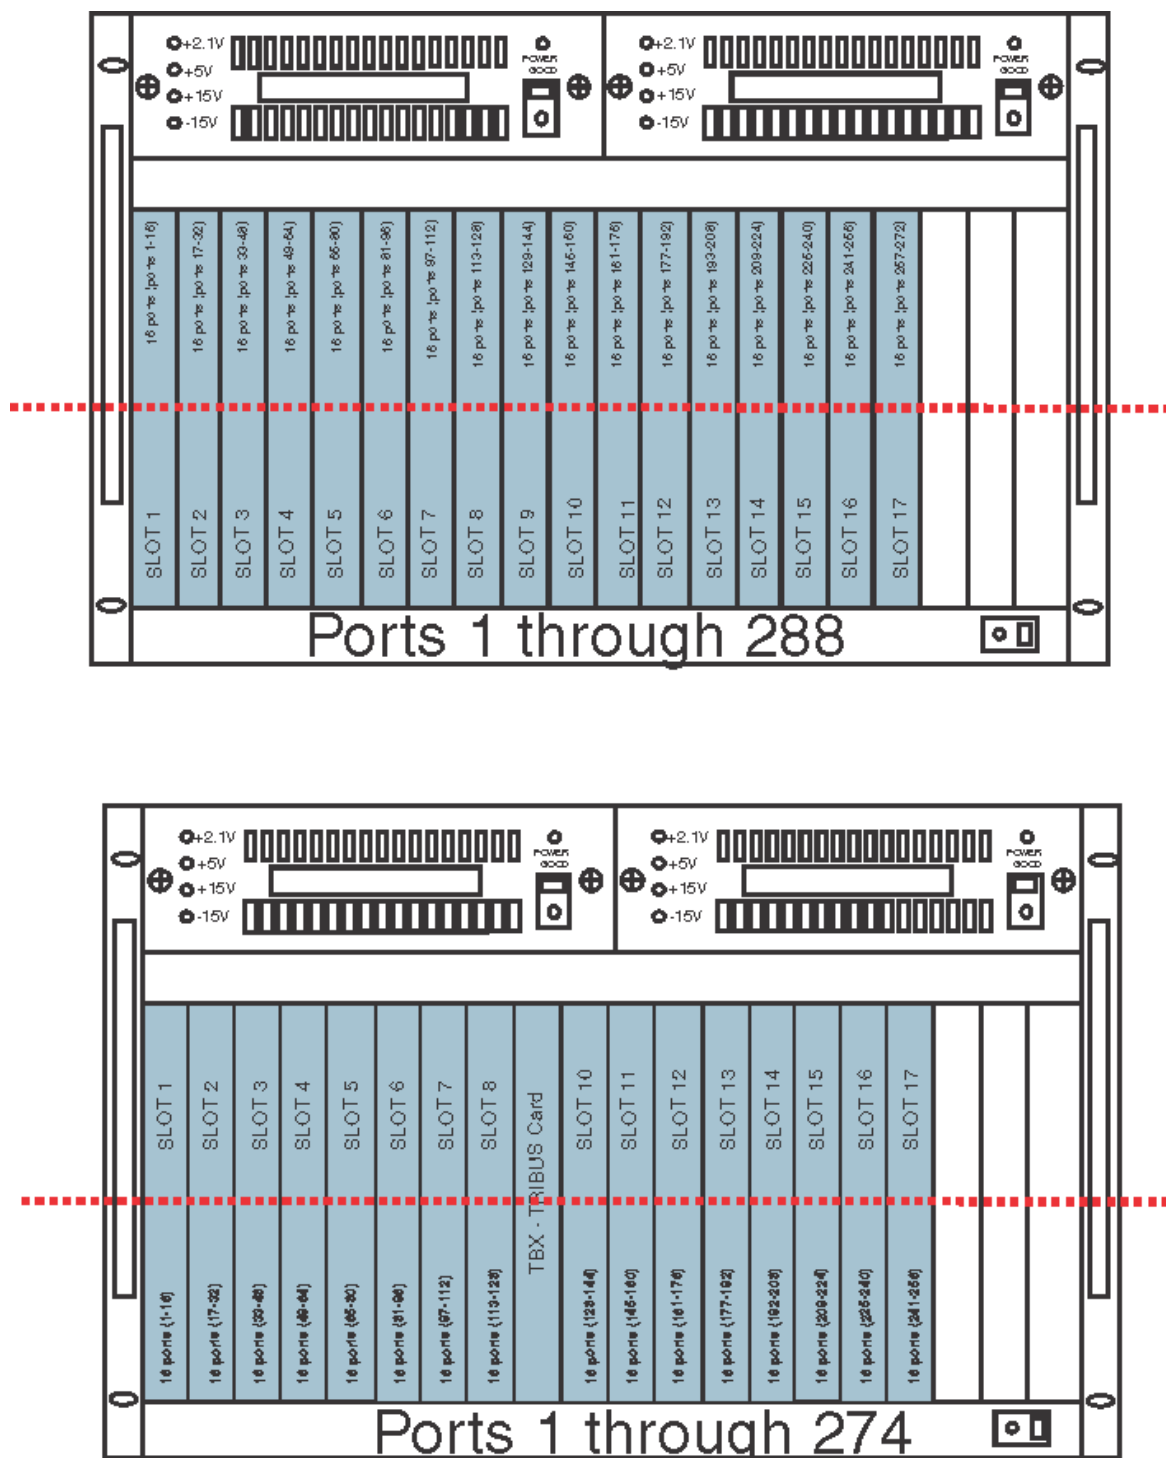

FIGURE 8. Base 16 Port Numbering System Example
The **Base 16 Port Number System** is newly supported with the TBX-Tribus Card. Unlike the Base 8 Port Number System, where the ports were split into an upper and lower set of eight (8) ports, the Base 16 Port Number System puts all 16 ports in one slot. This means, when you configure your intercom system to support Base 16, slot 1 in the ADAM holds ports 1 through 16, slot 2 holds ports 17 through 33, slot 3 holds 34 through 49, and so on. When a Tribus card is inserted into the frame, the port numbering system jumps to the next available AIO card slot, see Figure 8.